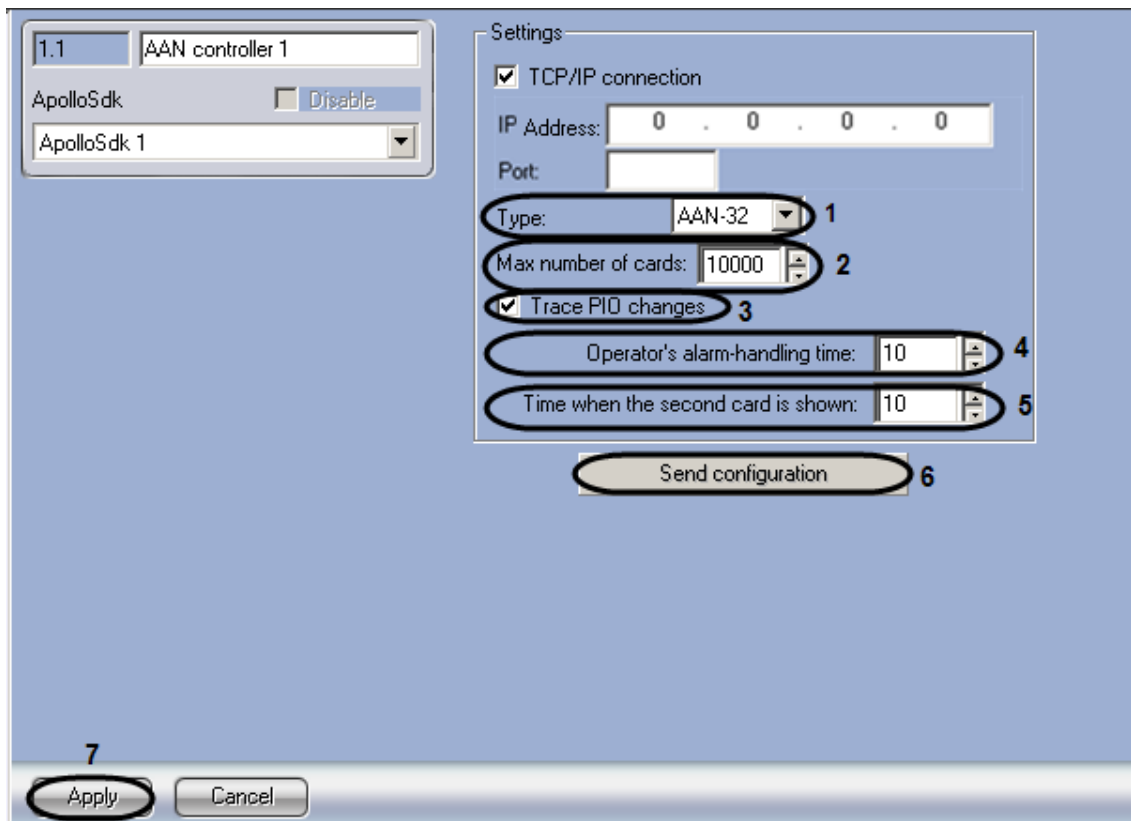

Fig.3.2-5 AAN Controller object's settings pane
5. Select the type of AAN controller (AAN-32 or AAN-100) from the **Type** dropdown list, depending on the type of hardware being used (Fig.3.2-5, 1).
6. In the **Max number of cards** field, enter the maximum number of access cards that will be stored in the controller's memory (see Fig.3.2-5, 2).
7. Check the **Trace PIO changes** checkbox to enable dynamic forwarding of access parameters to the controller (see Fig.3.2-5, 3).
8. In the **Operator's alarm-handling time** field, enter the time in seconds allotted to the operator to make a decision to grant or deny access (see Fig.3.2-5, 4).
9. In the **Time when the second card is shown** field, enter the period of time in seconds between the presentation of the first and second access cards which, if exceeded, will result in access not being granted (see Fig.3.2-5, 5).
10. To save any changes made, click the **Apply** button (see Fig.3.2-5, 7).
11. To save users and access rights to the controller's memory, click the **Save users** button (see Fig.3.2-5, 6).